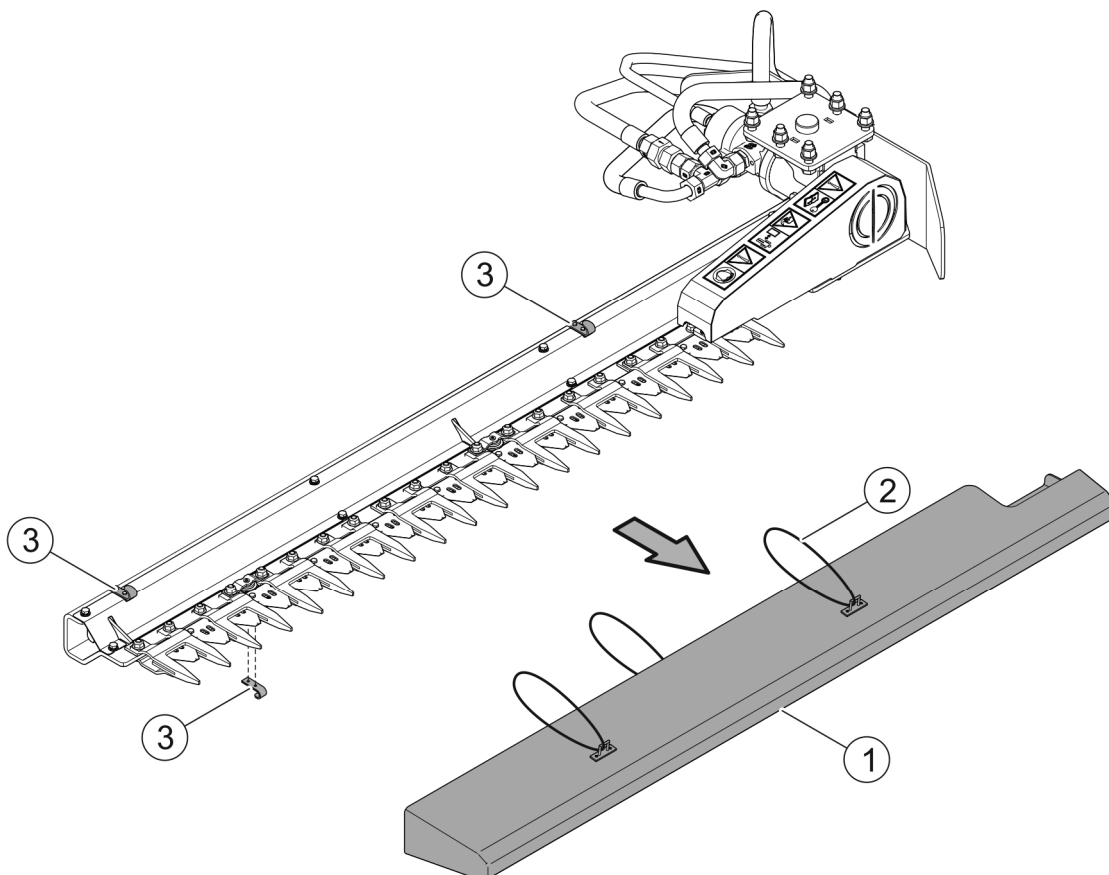

FIGURE 5.1 Dismounting the cutter bar transport protective guard.
the machine according to the Operator Manual of the multifunction arm. Protect the trimmer's cutter bar with protective guard (FIGURE 5.1).
- remove the transport protective guard of the trimmer cutter bar (FIGURE 5.1)
Method of dismantling of the cutter bar transport protective guard is shown in FIGURE 5.1.